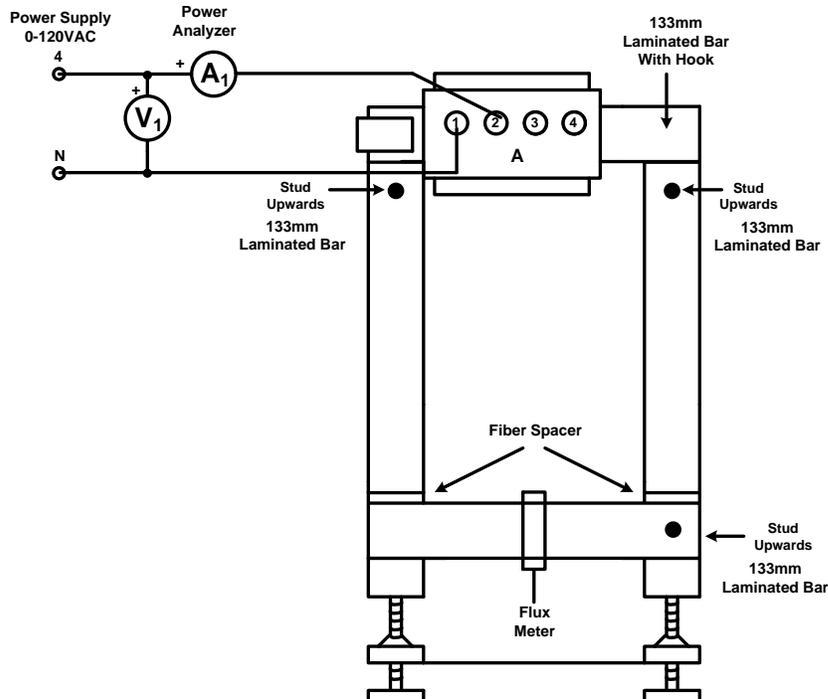

Figure 5: Magnetic Circuit with Flux Meter Measuring Magnetizing Flux
Step 4: De-energize the power supply. **DO NOT TURN THE VOLTAGE TO ZERO.** Move the flux meter to the center of the 133mm bar separated by the spacers, as shown in Figure 5. Re-energize the power supply and record the value of magnetizing flux in Table 1 (note these values are peak values)